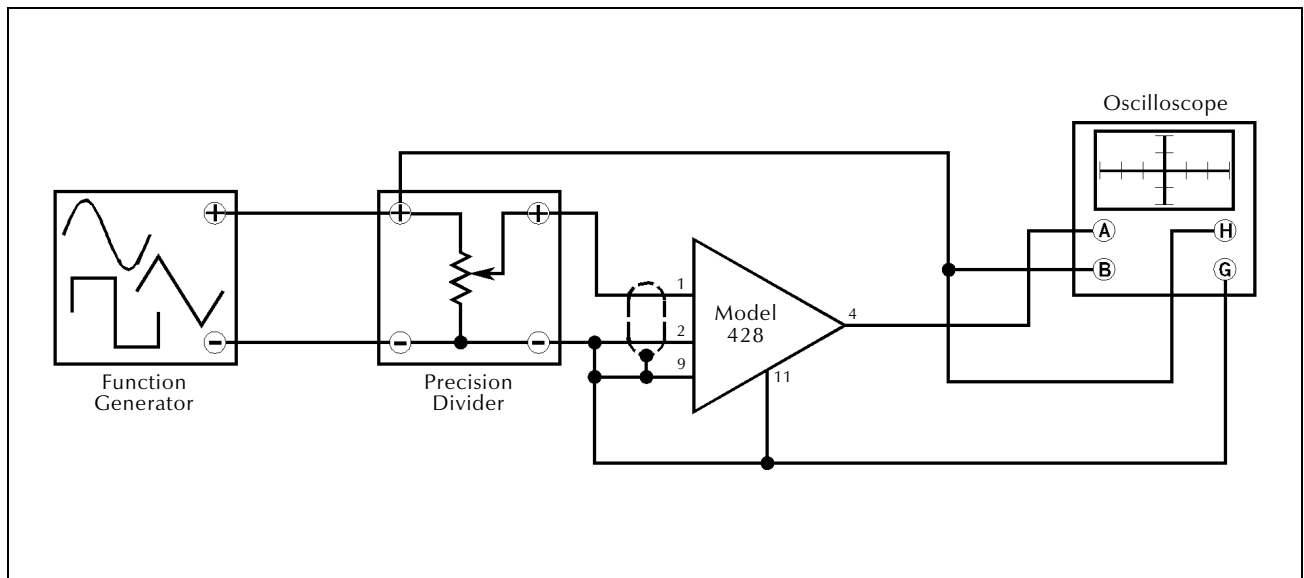

Figure 3-3
1. Connect the unit to be tested as shown in Figure 3-3.